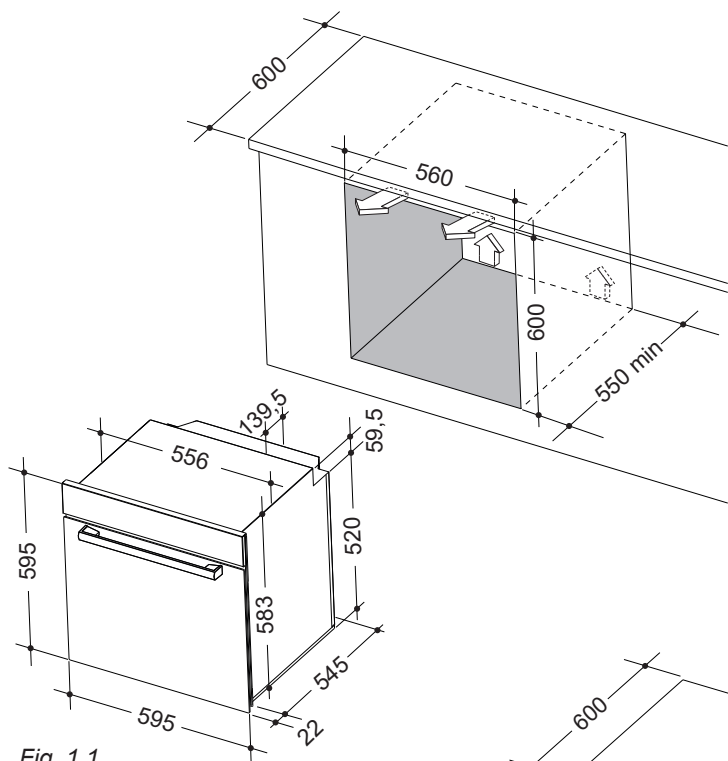

Fig. 1.1
- Installation requires a compartment as illustrated in figures 1.1 and 1.2.
It is essential that when installing your oven adequate air circulation is allowed for within the installation. See figures 1.1, 1.2, 1.3 and 1.4.